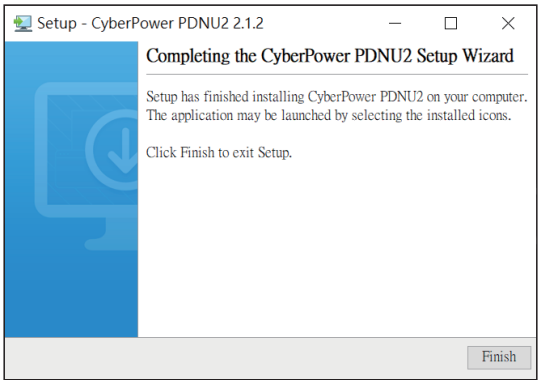

Figure 4
- Step 5. Select **Finish** to finalize the installation (Figure 4).